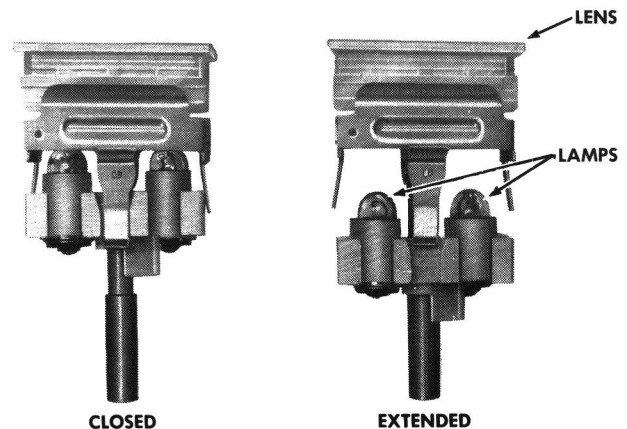

Figure 1 - Switch Indicator Assembly
3. Reinstall the indicator assembly. The assembly must be in the extended configuration shown in Figure 1 before it can be reinstalled in the panel.